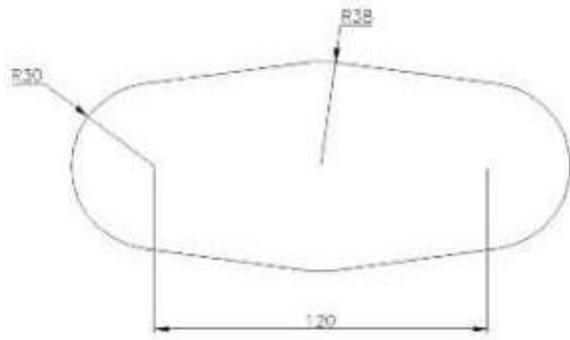

Fig.1
1. Open Auto CAD; Draw the Shape given in the Fig.1.
3. Change the dimensions according to Fig.1